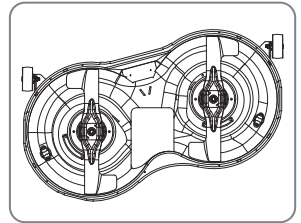

Fig. 59
1. Lock the blades with a wooden block (Fig. 59).